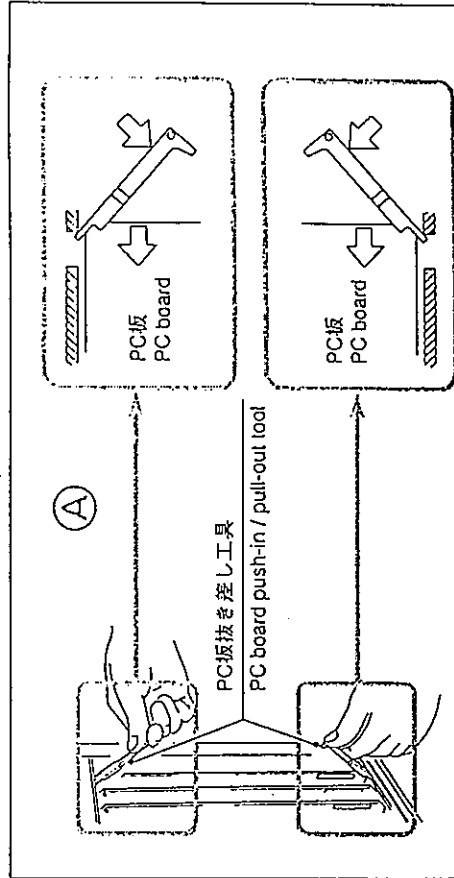

図15 Fig. 15
- (4) PC板抜き差し工具2個のツメを、PC板ロット手前の角穴に引っ掛け、図のようにPC板を確実に押し込む。(図15Ⓐ)
- (4) Put 2 claws of PC board push-in / pull-out tool on square hole in front of PC board slot. And securely push in PC board as illustrated. (Ⓐ in Fig. 15)